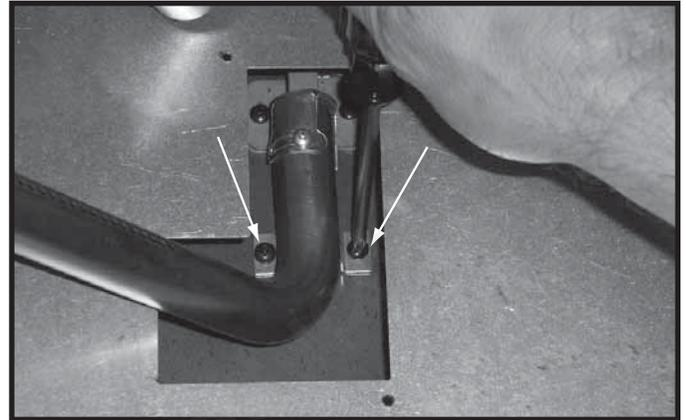

Figure 11.18 Remove Outside Burner Tubes
- Remove three outside burner tubes by removing two screws on each tube. It will be necessary to remove two screws from the pilot assembly and two screws from the pilot shield on the rear burner tube prior to removal. See Figure 11.18